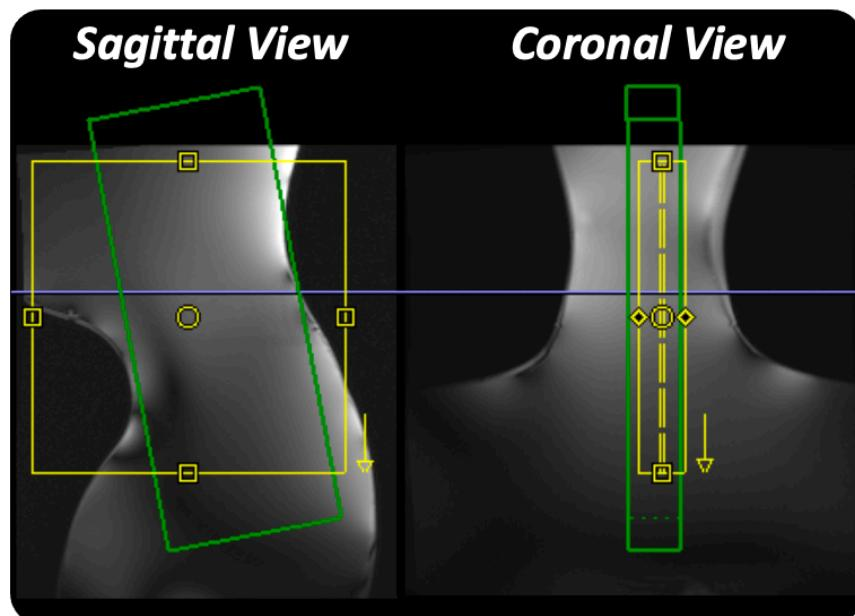

Figure 9. Positioning of FOV and B0 shim box for sagittal coilQA scans.
- **Position the Field of View (FOV) according to Figure 9.** The center of the FOV should roughly **correspond to the Isocentre**. If the FOV in the FH direction for the imported protocol is too large for your coil, use the largest FOV possible in the FH direction for your coil.